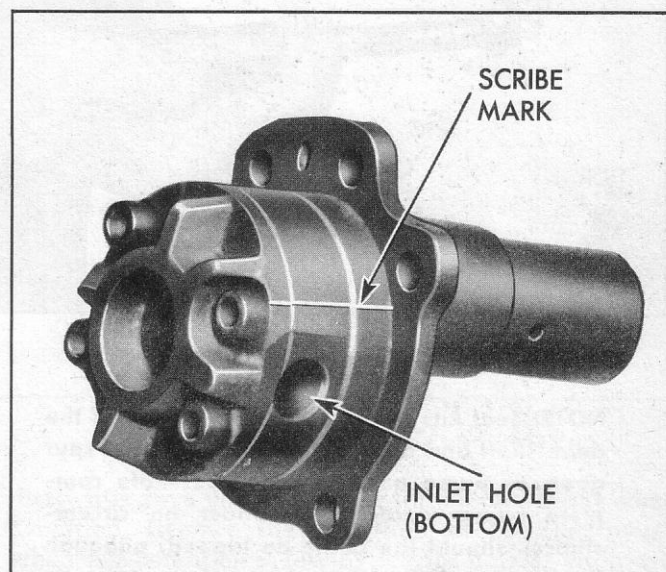

Fig. 52—Marking Reassembly Scribe Line
3. Scribe reassembly marks on pump housing, carefully noting that the intake port is located at the bottom of the pump (fig. 52). Remove sealing lead from cover attaching screws, remove screws and cover.